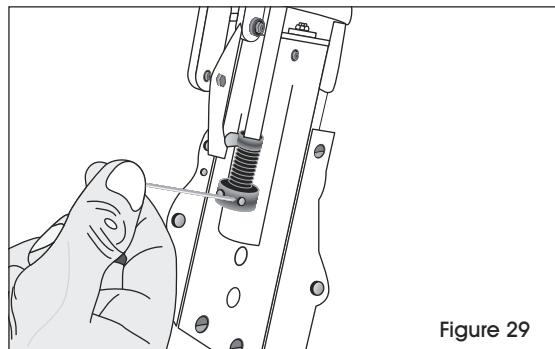

Figure 29
5. Loosen collar with a 3 mm straight rod to remove the spring. (See Figure 29)